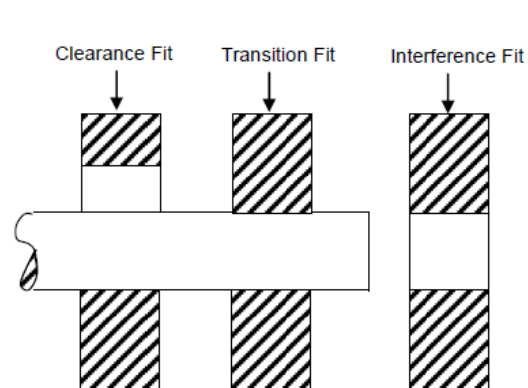

Fig. 1.16 Shaft Basis System
2. Shaft basis system (Figure 1.16)